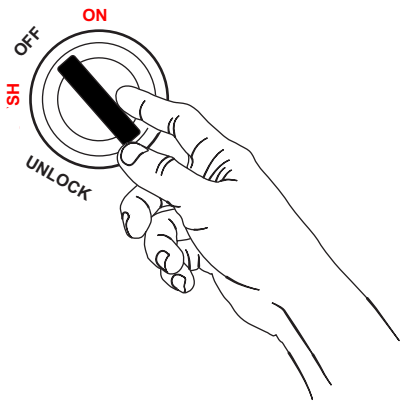

Figure 21. Key Switch OFF Position
- Place key switch in the **OFF** position (Figure 21) and verify that the drum stops rotating.